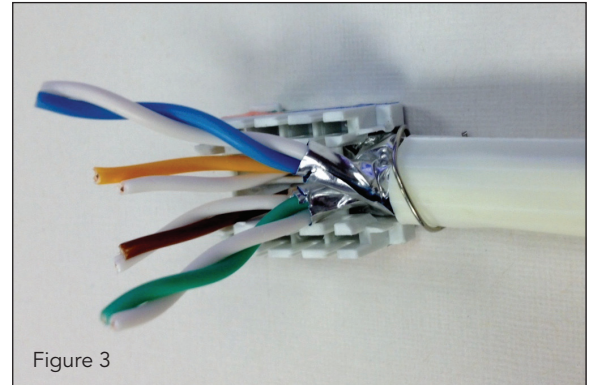

Figure 3
- 4.3 Orient wire pairs into correct position and according to the color code guide on the jack. housing. See Figure 3.